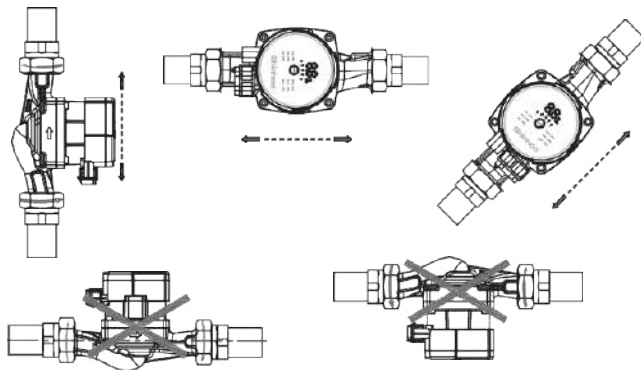

Fig. 5 Pump location
1. The pump must always be mounted so that the motor shaft is horizontal to the ground (see Fig 5).